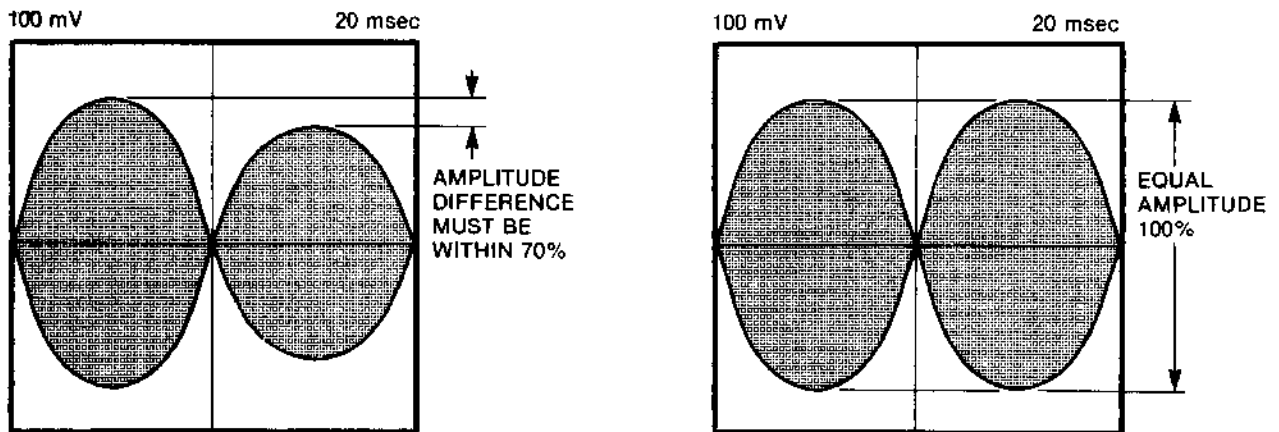

FIGURE 10-6. ALIGNMENT LOBES
- b. Select drive and step head(s) to track 16 (455) or track 64 (465).
- e. Amplitude of two lobes must be within 70 percent of each other. If lobes do not fall within specification, continue with procedure (see figure 10-6).